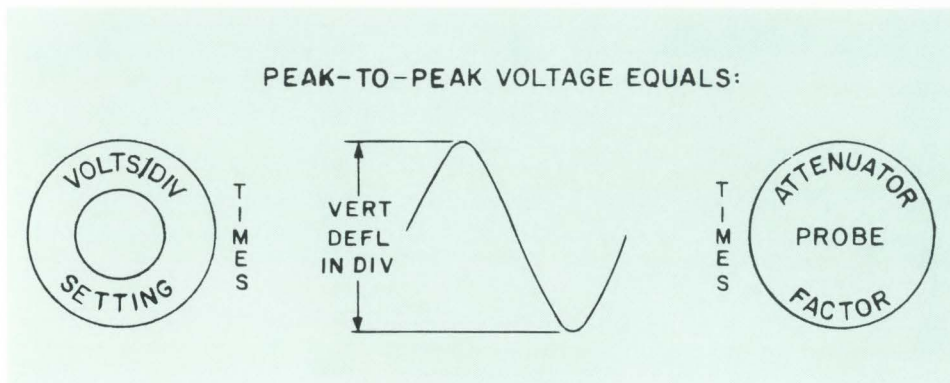

Figure 2-4. Peak-to-Peak Voltage Measurements
1. Using the calibrated scale, measure the vertical deflection in graticule divisions from the positive peak to the negative peak of the waveform. See Figure 2-4.